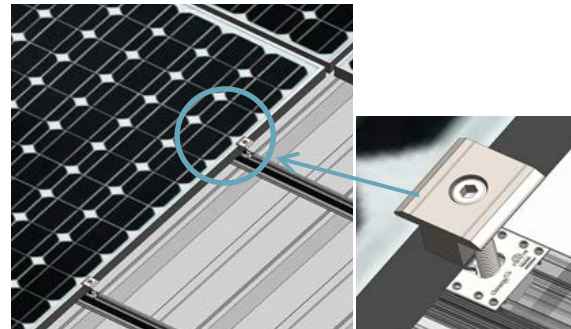

Figure 25
Step 2 Slightly lift the PV Module and slide Inter Clamps and Grounding Clips into position. The teeth on Grounding Clip will automatically align when the Inter Clamp is properly installed as shown in Figure 25.